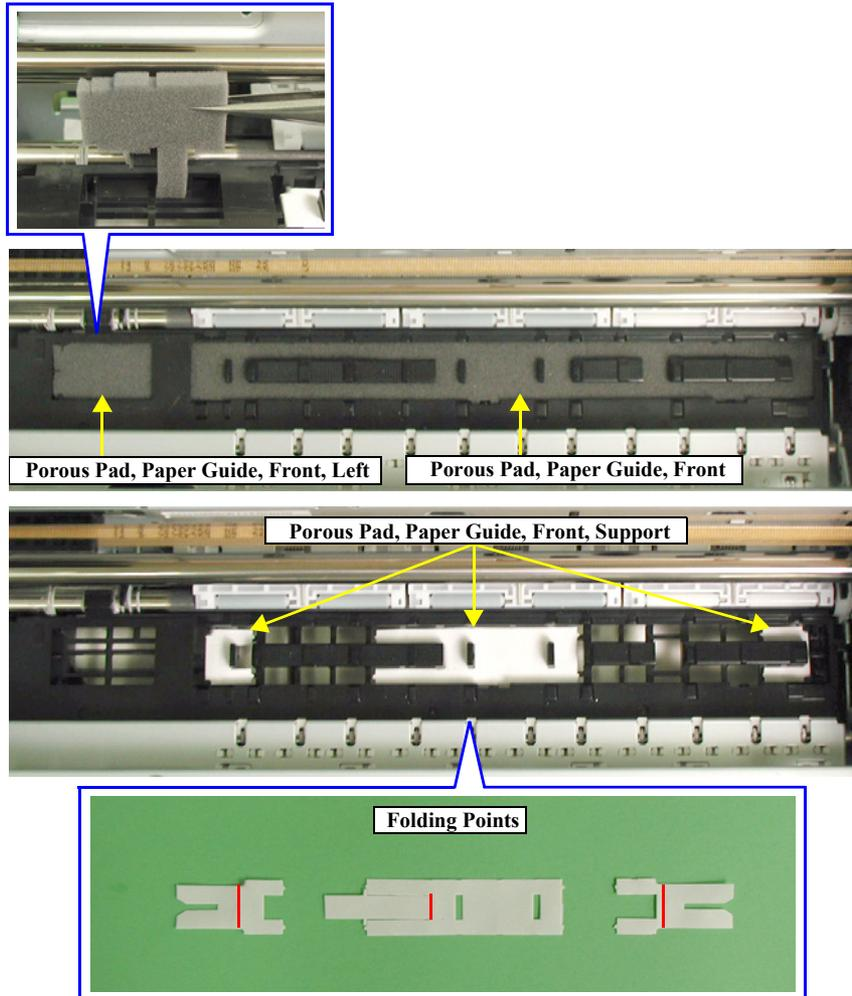

Figure 2-13. Porous Pad, Paper Guide, Front Removal
- Attach the Porous Pad, Paper Guide, Front, Support by inserting its feet into the holes of the Paper Guide, Front shown in Figure2-13, then put the three portion of the pad support under the rib and check if it is securely fit.